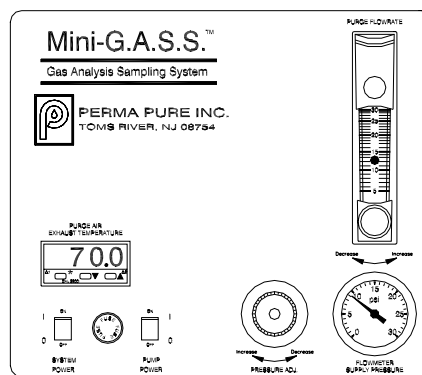

Figure 8
1. Press and hold “★” key (Refer to Figure 8).